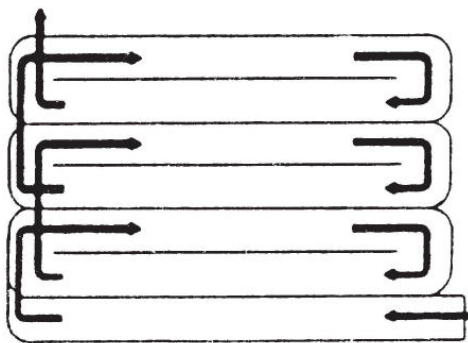

Figure 7
- Where possible, we recommend that you till in a pattern similar to that shown in **Figure 7**.